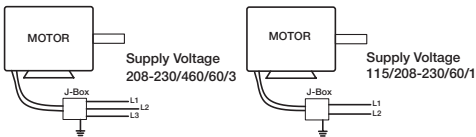

Figure 12 — Typical Wiring Diagram
- Mount and wire safety disconnect switch under ventilator cover and wire motor per connection wiring diagram, refer to Electrical Connection, Figure 12. Wire control switches at ground level.
**NOTE:** Refer to Figure 12 for connection wiring diagram.